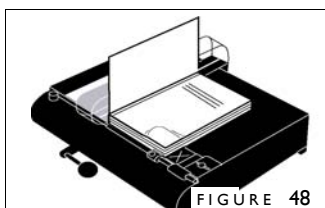

FIGURE 48
4. Lay the book block, front facing up, on the right side of the Platform with its bottom edge resting against the Guide Rail (figure 48). It is OK if part of it rests on top of the Centering Guide. Push the spine of the book block against the spine portion of your cover that is folded up.